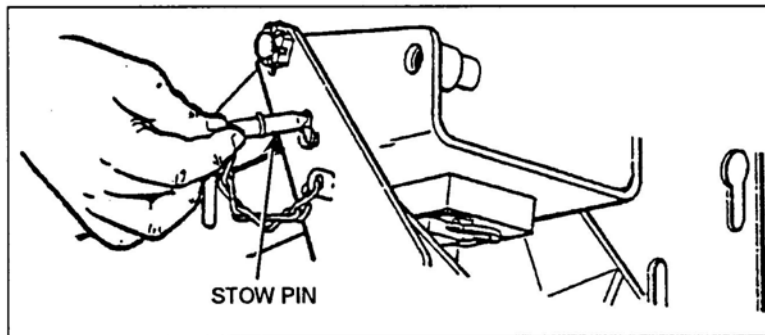

Figure 4. Disengaging the Stow Pin
- d. Disengage the stow pin (Figure 4) from the gun mount.